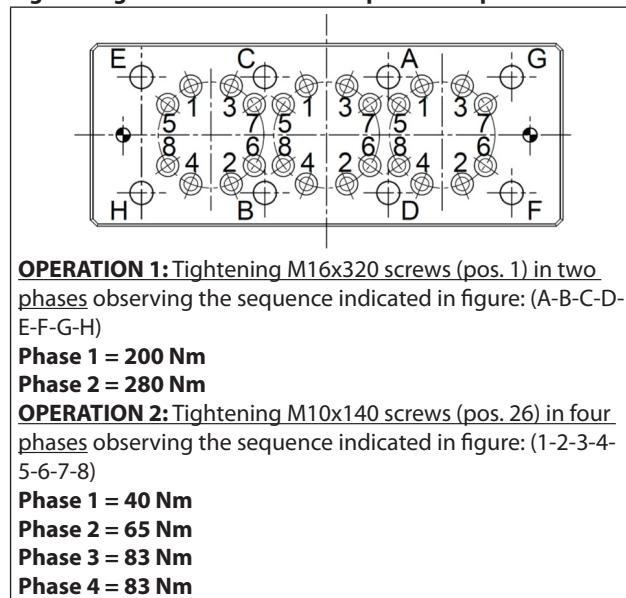

Fig. 131
*** The head fixing screws must be tightened respecting the phases and order shown in the diagram in Fig. 131.
**** The liner fixing screws must be tightened respecting the phases and order shown in the diagram in Fig. 131.